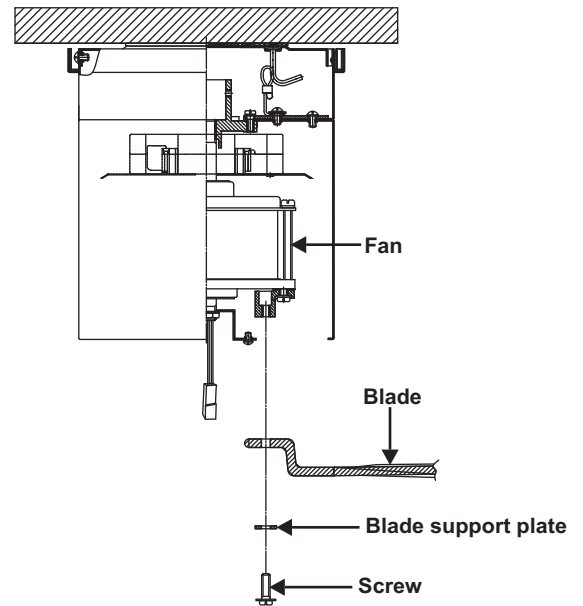

Figure 12
1. Attach the blade to the fan motor using the screws and blade support plate provided as shown in Figure 12. Repeat for the remaining blades.